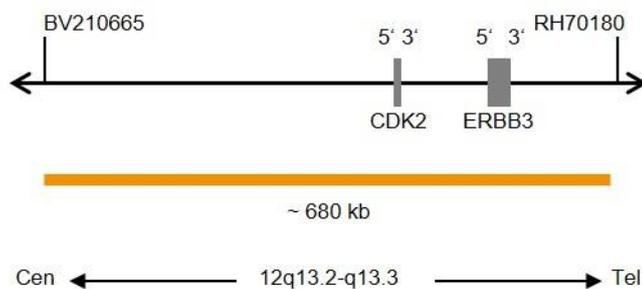

Fig. 1: SPEC ERBB3 Probe map (not to scale)
- ZyOrange (excitation 547 nm/emission 572 nm) labeled polynucleotides (~4.5 ng/μl), which target sequences mapping in 12q13.2-q13.3* (chr12:55,938,458-56,616,182) harboring the ERBB3 gene region (see Fig. 1).